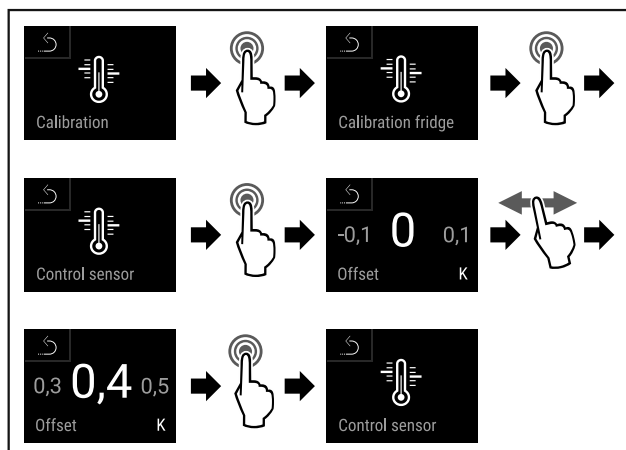

Fig. 137
- ▶ Complete steps (see Fig. 137).